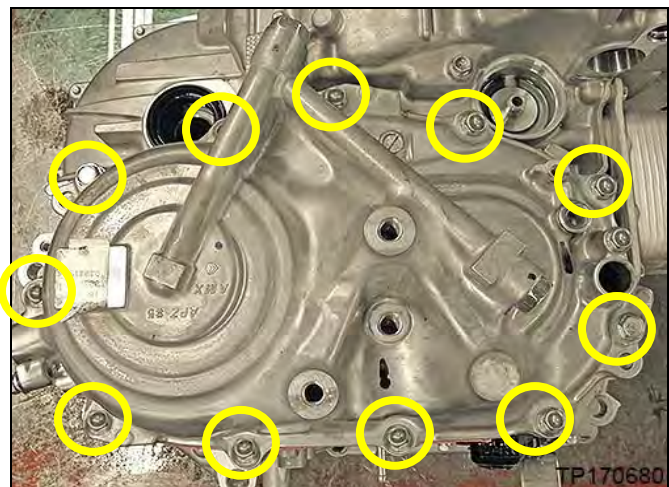

Figure 3J
3. Remove the eleven (11) side cover bolts shown in Figure 3J.
- Retain two (2) of these bolts. They will be temporarily installed during a later step.